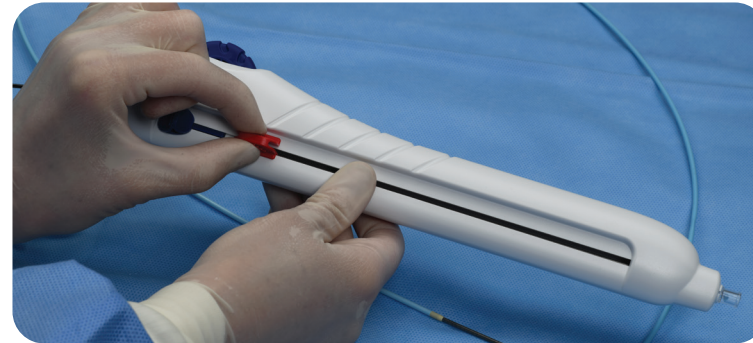

Figure 14
- C. Remove the safety lock from the handle. (Figure 14)